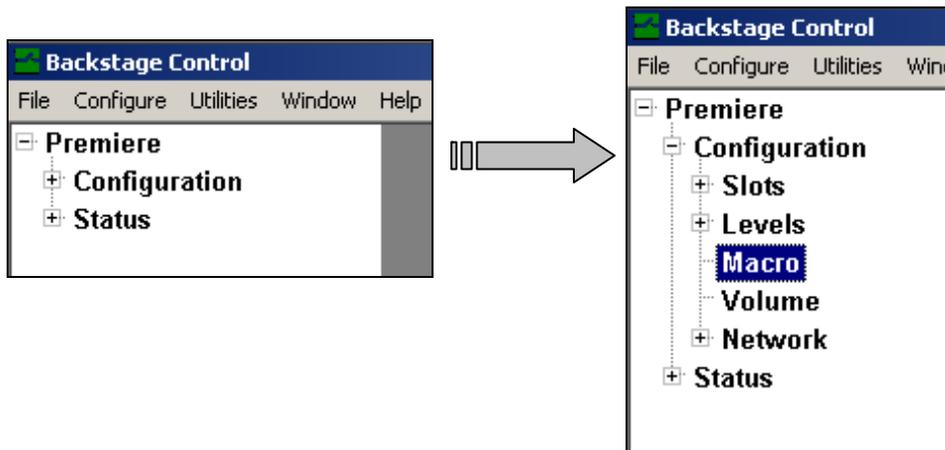

FIGURE 85: Accessing the Macro Directory
- 6) In the tree window, access the Macro directory by expanding the Premiere and Configuration root directories by clicking on the x-box (☒) adjacent to each directory (see Figure 85).